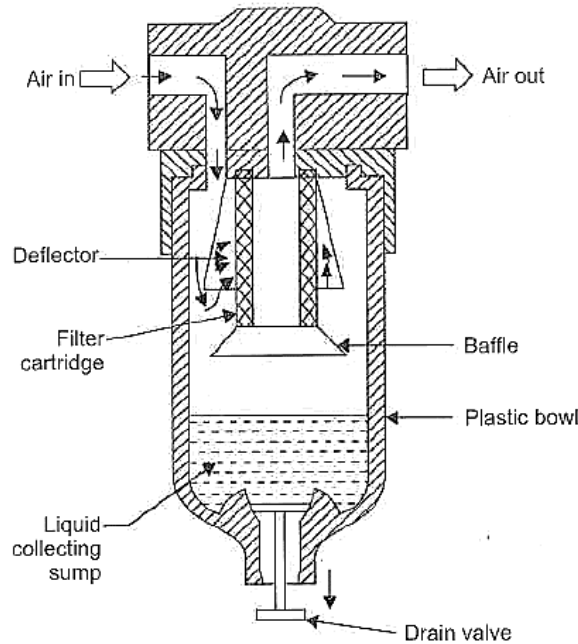

Fig.4.14 Construction of an air filter
- ▶ The construction of a typical cartridge type filter, along with graphical symbols, is shown in Fig.4.14. It consists of a filter cartridge, a deflector, a bowl and a water drain valve. The filter bowl is usually made of plastic and is transparent. For pressures higher than 10 bar, the bowl may be made of brass.